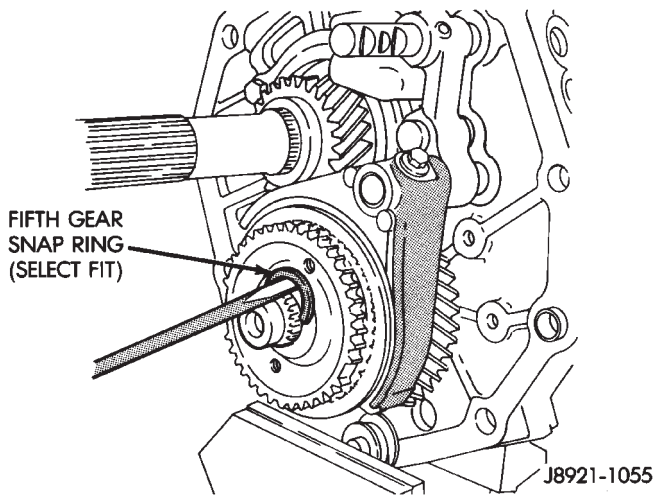

Fig. 21 Removing Fifth Gear Snap Ring
(3) On AX 4, remove counter gear nut and oil slinger. On AX 5, remove select fit snap ring that secures fifth spline gear and counter fifth gear on shaft (Fig. 21).